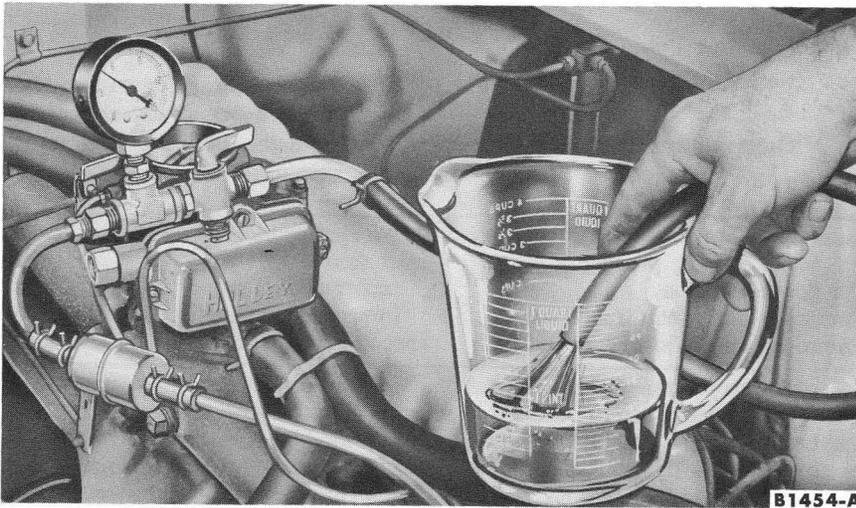

FIG. 2—Fuel Pump Pressure and Capacity Test
2. Install a pressure gauge (0-15 psi) and a petcock to the fuel line (Fig. 2).
2. Open the petcock and expel the fuel into a suitable container (Fig. 2). Observe the time required to expel one pint. It should be 1 pint within 30 seconds.